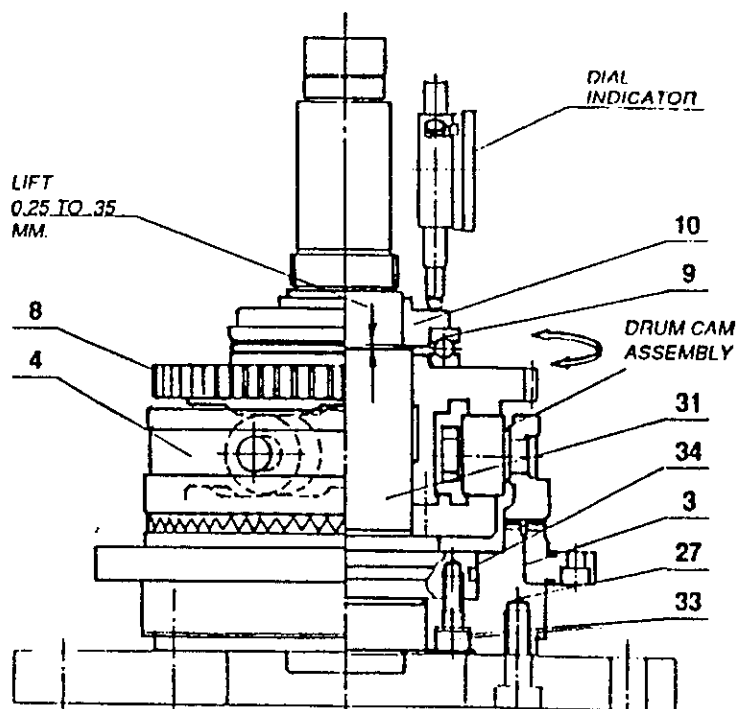

FIG 17.3
17.13 Assemble spindle, indexing flange and fixed coupling (components 31, 34, 27, 3, 33); and keep this assembly in vertical position on a table (fig 17.3). It is convenient if the assembly could be clamped to the table with the help of a plate as shown in the drawing. If plate is not available you may use tool disc in place of the plate.
17.15 Inspection of spring seat lift (fig 17.3): Hold sliding coupling (4) by one hand to prevent its rotation, and rotate drum cam gear (8) by hand (fig. 3). Sliding coupling will move up and down; engaging and dis-engaging with fixed and indexing couplings (3 and 27). At the end of downward stroke, spring seat should lift up by 0.25 mm to 0.35 mm. This lift should be inspected by using a dial indicator. If the lift is less, it should be adjusted by grinding the bottom face of spring seat (10). If lift is more, it can be reduced by removing material from the bearing seating surface of spring seat 10.